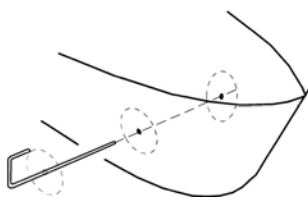

Fig. 16
- Pass the instrument to draw the profile of the tunnel (not supplied) through the holes drilled and draw the external diameter of the tunnel on the hull (**Fig. 16**).